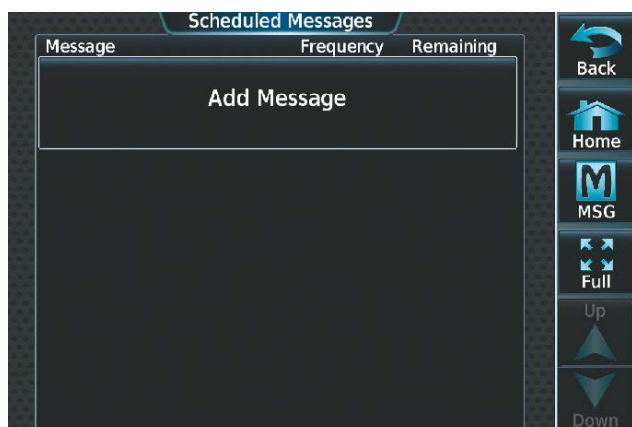

Figure 8-99 Touch Add Message
- 2) Touch the **Add Message** Button as shown in Figure 8-99.